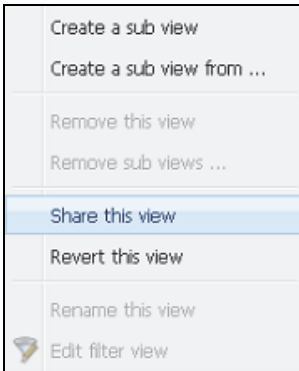

Figure 47. Contextual Sub-view Menu
- 1 Right-click the view to open the contextual menu (see Figure 47).